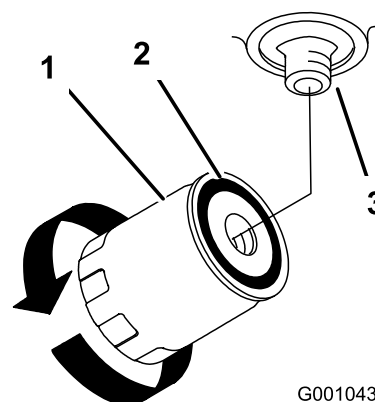

Figure 82
7. Apply a thin coat to the rubber gasket on the replacement filter (Figure 82).
9. Fill the hydraulic tank with hydraulic fluid until the fluid overflows the filter and then turn the oil filter clockwise until the rubber gasket contacts the filter adapter, then tighten the filter an additional 1/2 turn (Figure 82).